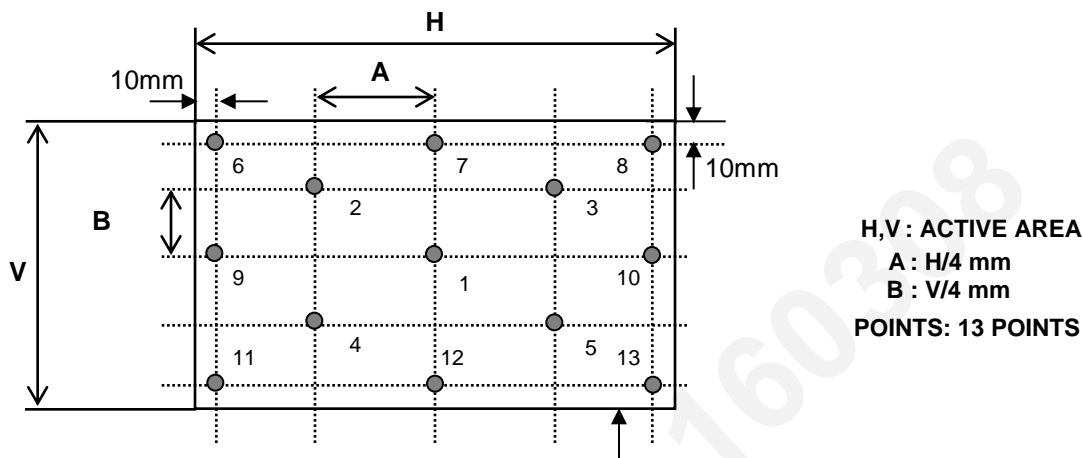

FIG. 3 Response Time
4. Response time is the time required for the display to transition from black to white (rise time, Tr) and from white to black (falling time, Tf). For additional information see FIG 3.